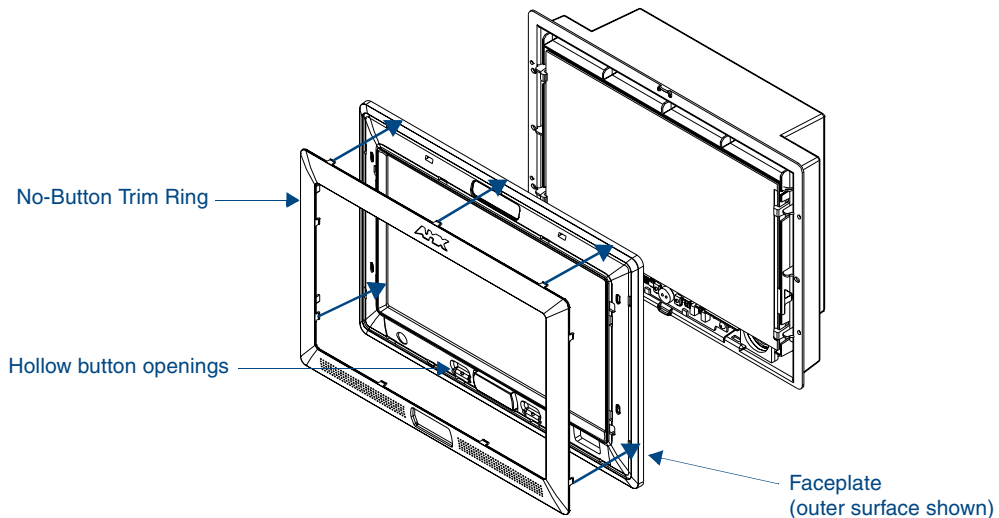

FIG. 17 Inserting the new No-Button Trim Ring
8. Gently insert the Trim Ring latches into their corresponding openings on the outer surface of the internal Faceplate (FIG. 17).